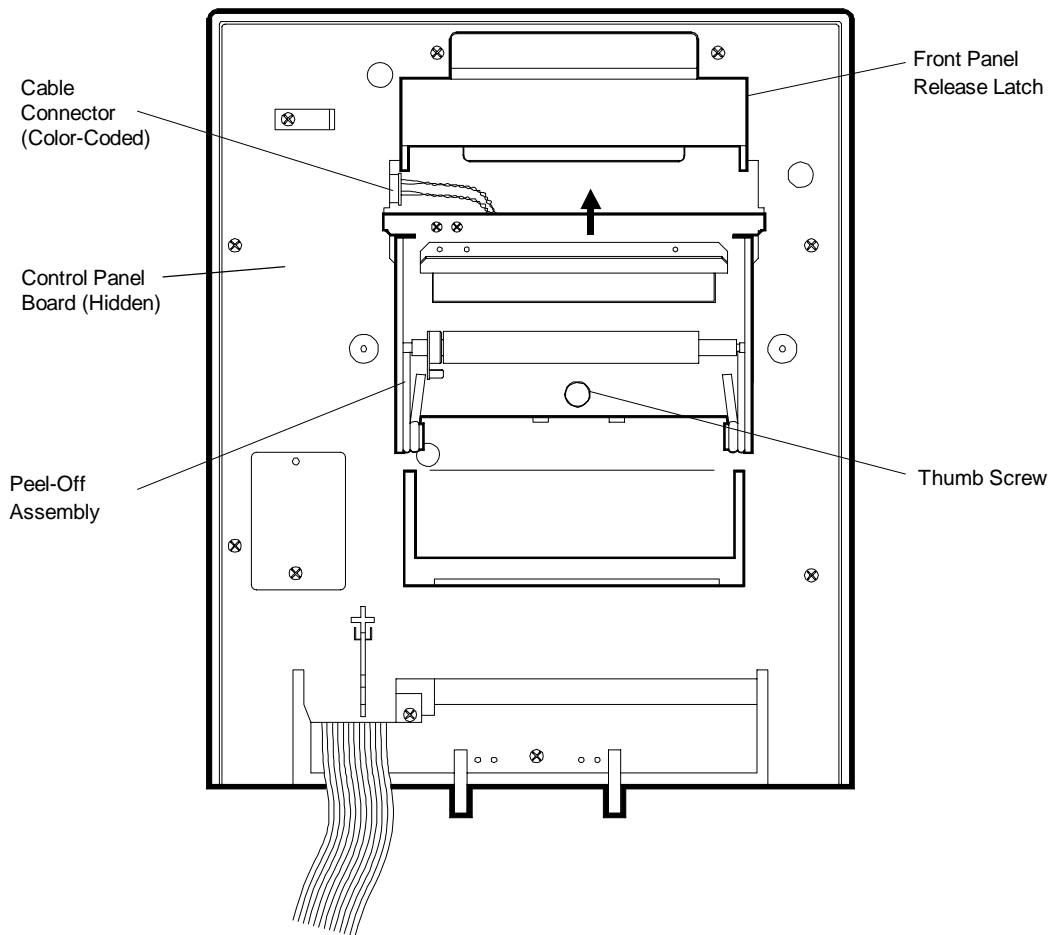

Figure 4-14 Model 48 and 412 Peel-Off Assembly Removal (Inside Front Panel View)
NOTE: By lifting up the front panel stopper, you can lower the front panel so it is flat on the work table, allowing better access. Figure 4-14 in this section shows the location of the stopper.
- Loosen the peel-off assembly thumb screw by turning it counterclockwise (see Figure 4-14).